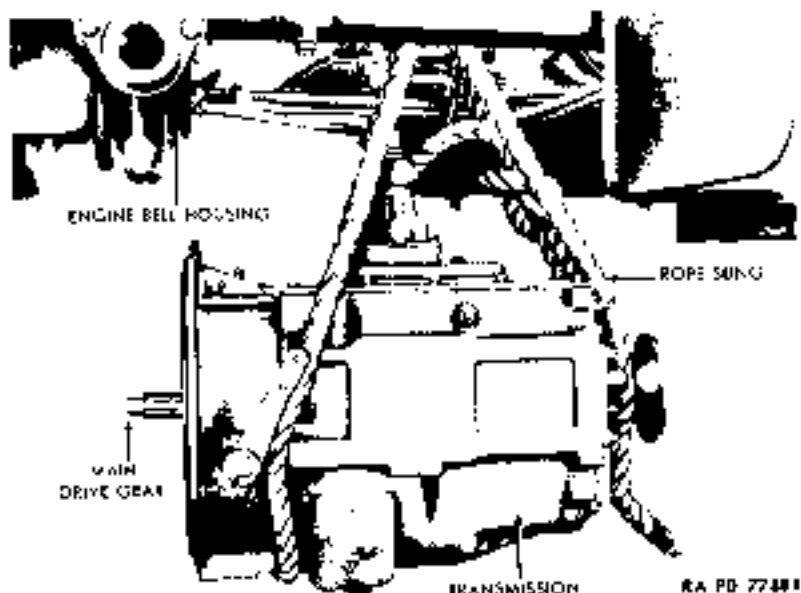

Figure 54 - Removing Transmission
**m. Remove Transmission (fig. 54).** Attach rope sling to transmission. Attach chain fall or other suitable lifting apparatus to sling, and pull up just enough to take weight of transmission from bell housing. Remove remaining eight cap screws and lock washers (two already removed) which secure transmission to bell housing.
a. **Position Transmission to Clutch Bell Housing (fig. 54).** Slide transmission under vehicle. Attach rope sling, and raise to position about a foot behind bell housing with chain fall and rope sling. Push transmission forward to position against bell housing. Install 8 of the 10 cap screws and lock washers which secure transmission to housing. Remove rope sling and lifting apparatus.